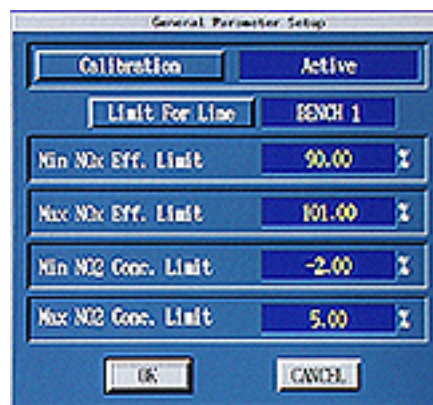

Figure 8
| Figure 8 General Parameter Setup Panel ..... | 8  |
- 114 On the “NOx efficiency Menu,” click on the “General Parameter Setup” button. The “General Parameter Setup” panel will appear. See Figure 8.